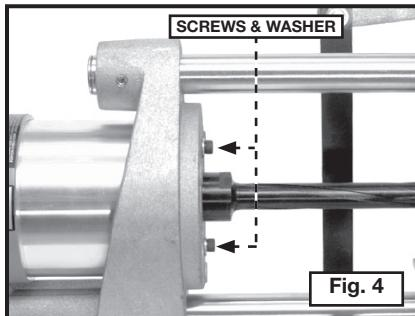

Fig. 4
3. Insert the two screw and washer assemblies (from Step 1) through the motor carriage (Fig. 4). Thread them into the holes in the motor housing. Tighten securely with the hex wrench.